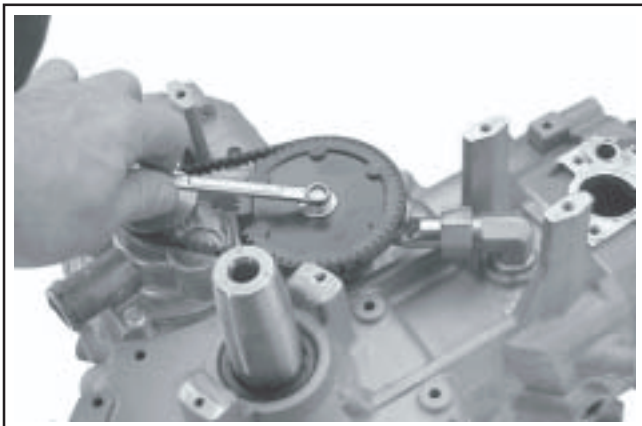

Figure 9-45. Removing Cam Pulley Hardware.
- Remove the hex. flange screw and flat washer, securing the cogged drive pulley to the camshaft. See Figure 9-45.